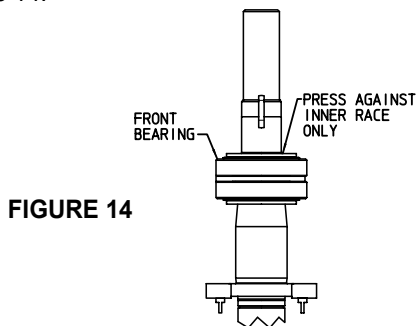

FIGURE 14
2. Place front bearing over shaft with shield side up. Press onto shaft until bearing is seated against shoulder. Place bearing spacer over shaft to seat on front bearing. See Figure 14.